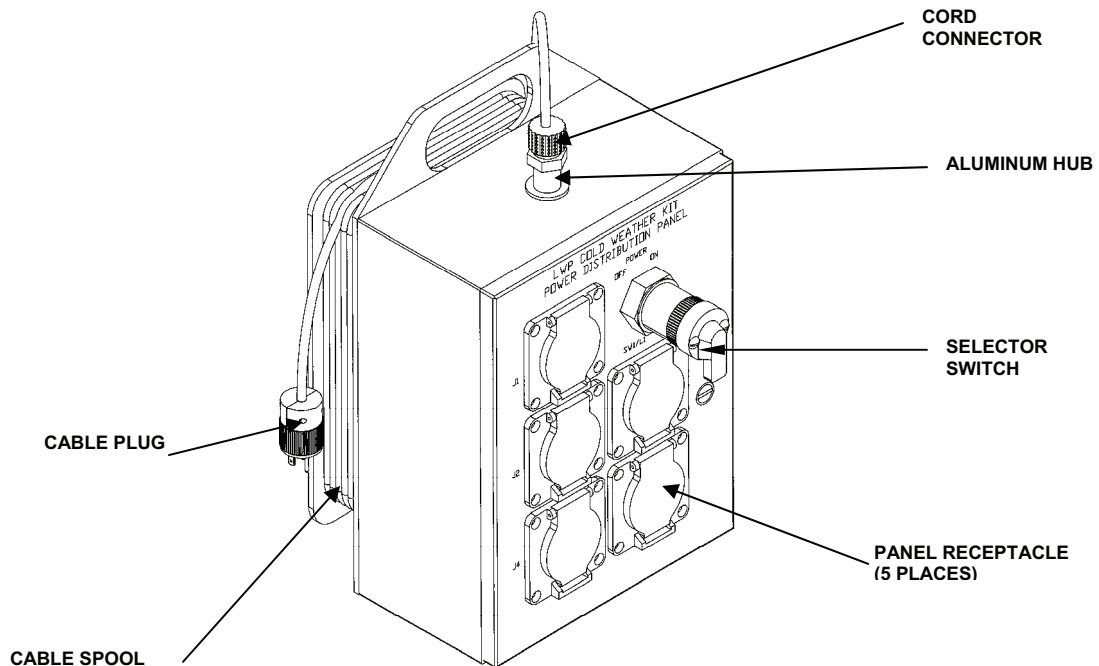

Figure 1. Power Distribution Panel.
2. Coil electrical cable on spool. See Figure 1.